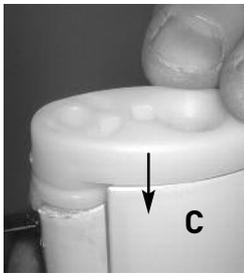
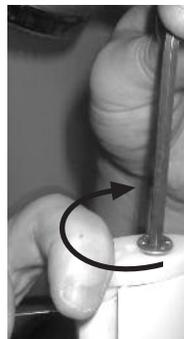

Figure a8
Figure a8i
8. Once the Glass Screen (B) is pushed completely down onto the top of the Bottom Swivel Moulding as in Stage 7, fix the Top Swivel Moulding over the top of the Glass Screen and the Main Curved Rail (C) (**Figure a8**). With the Allen Key (J) secure the Top Swivel Moulding (**Figure a8i**).